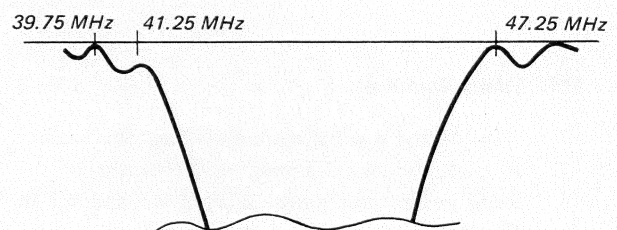

Fig. 3-3
4. Make the adjustments specified in TABLE 3-1 to produce the trap response curve as shown in Fig. 3-3.